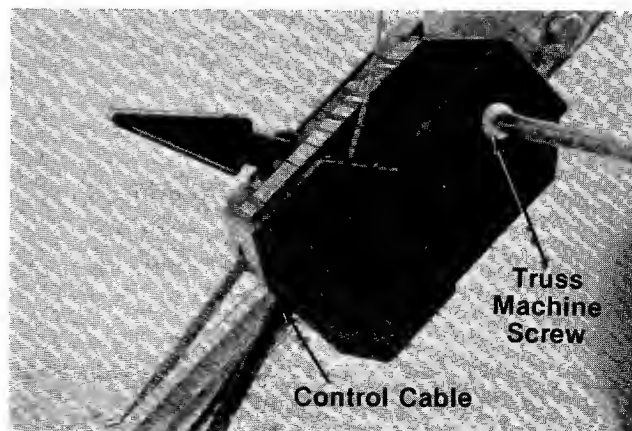

FIGURE 14.
4. Remove one truss machine screw on the inside of control housing as shown in figure 14. Loosen the truss machine screw on the outside of the control housing until the two halves of control housing can be separated enough for the control cable to be freed.